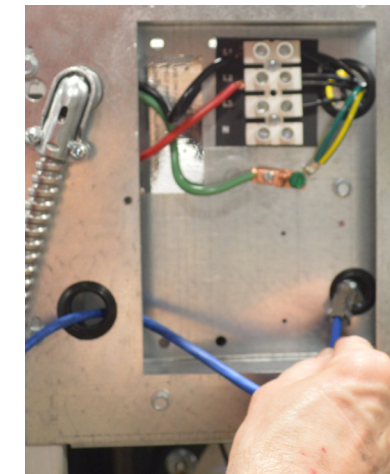

Figure 2
- Run the cable through the lower left hole with a bushing (Figure 2).